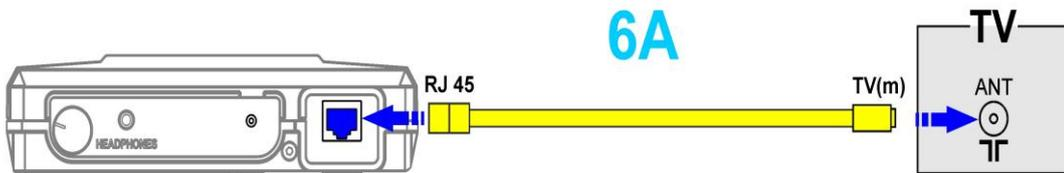

Fig.13
The main unit is connected to an antenna input of the TV set using a patch cord (Fig.1, item 19). The scheme of connection is shown in Fig.13.